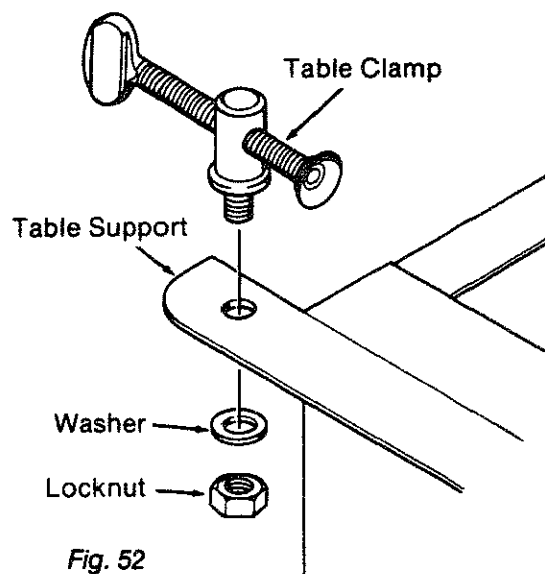

Fig. 52
1. Place the *table clamp* in the hole provided at the rear of the right table support. (Figure 52)
2. Put a *washer* and *locknut* on the *table clamp* and tighten using a 1/2 inch wrench or socket. (Figure 52)
3. Repeat steps 1 and 2 with the left table clamp. (Figure 52)